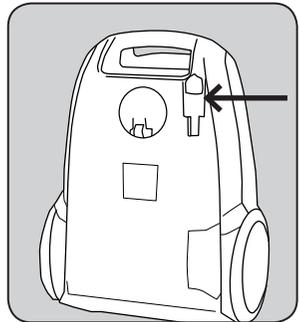

Fig. 2
2. When vacuum is upright, attach the wand to the back of the vacuum (Fig. 2) using the tab on the tool caddy (Fig. 3).